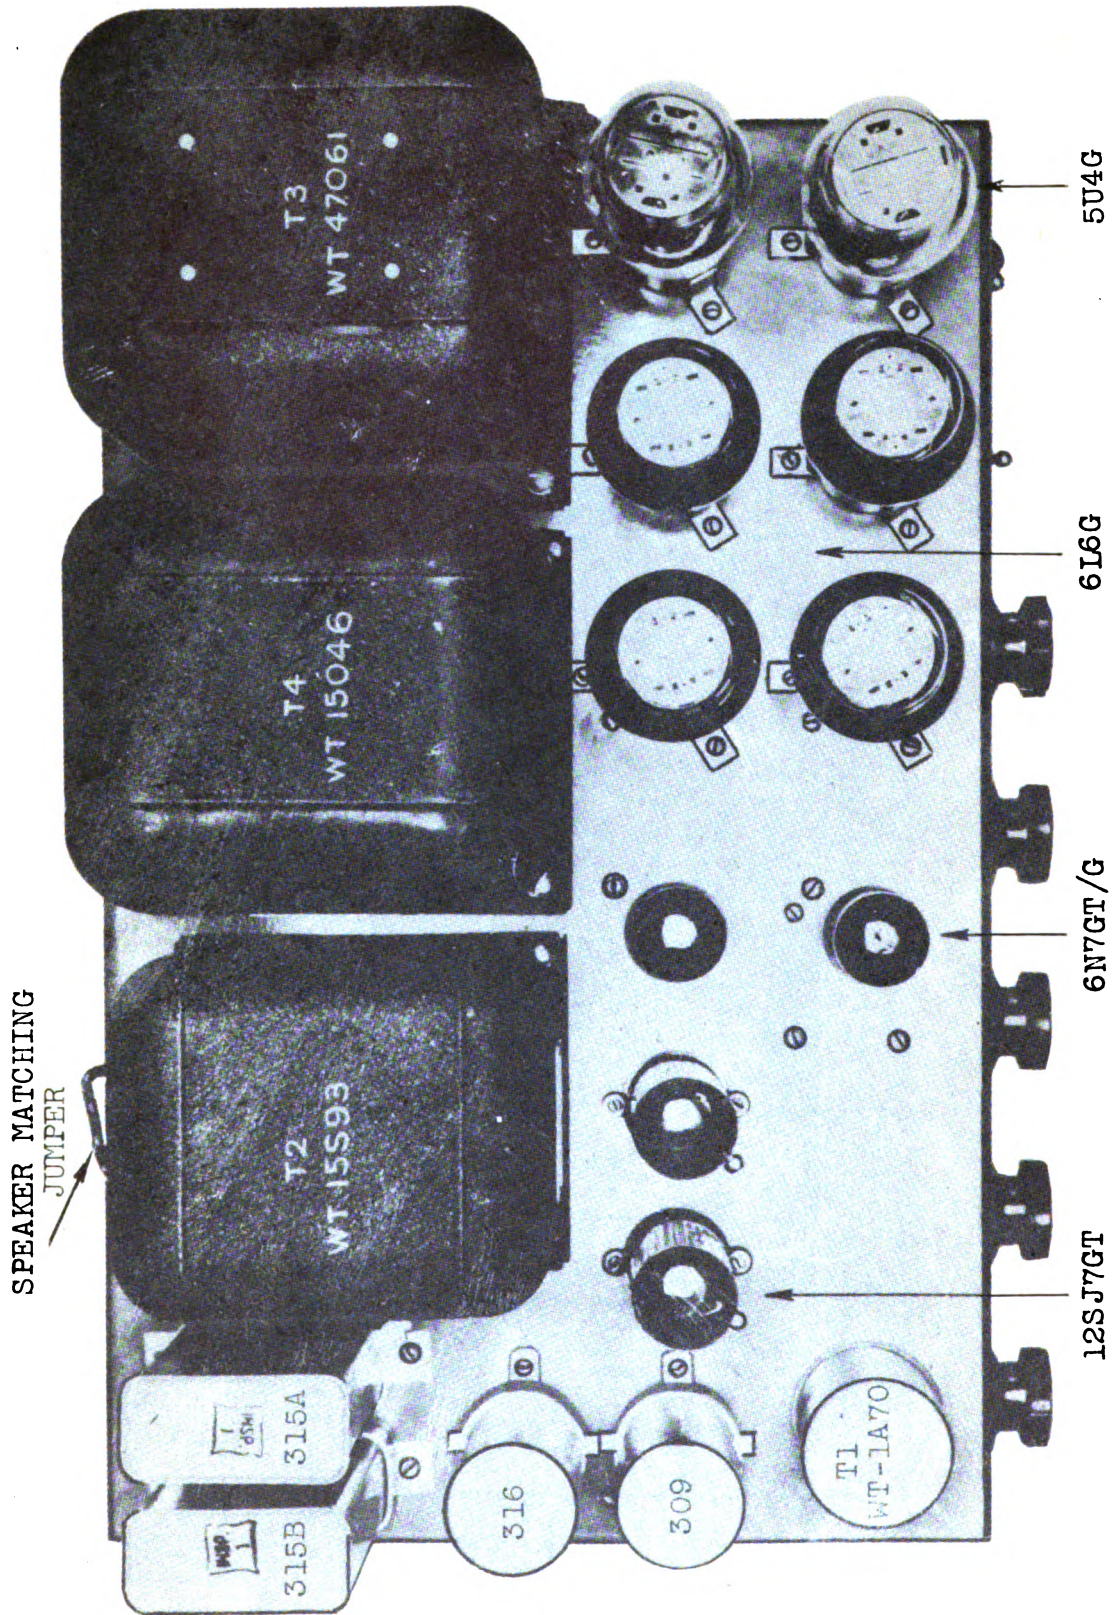

Figure 4. Public Address Set PA-1-F, amplifier, top view.
**b. Tubes (fig. 4).** A complete operating complement of tubes consists of: